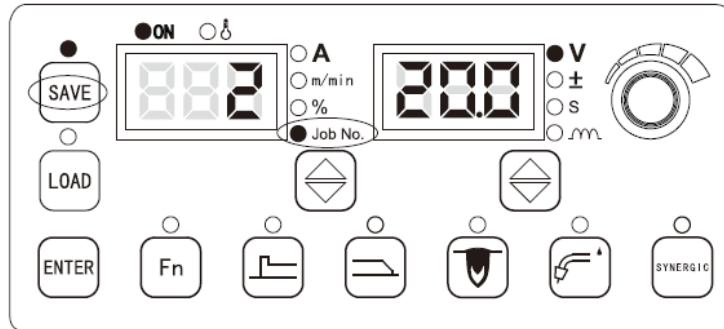

Figure 3-16 Saving parameter settings
2. Use the knob on the control panel to select a channel ID, which ranges from 0 to 49. Then, press the **ENTER**  button. See Figure 3-16.